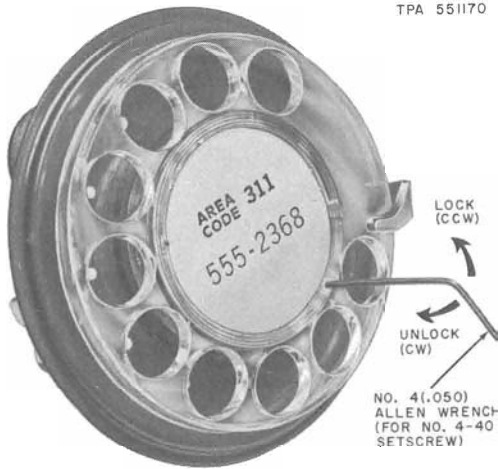

Fig. 16—Installing Fingerwheel on 8U Dial
- (1) Refer to Fig. 16, use a No. 4 (.050) Allen wrench and turn the setscrew in a clockwise direction until it clears fingerwheel.
- (2) Turn fingerwheel in a clockwise direction until operator hole is in the 9 position and lift off.
- (1) Ensure that setscrew is all the way in (clockwise).
- (2) Place fingerwheel on dial with operator hole over the 9 position.
- (3) Rotate fingerwheel counterclockwise until it is in its normal position.
- (4) Using a No. 4 (.050) Allen wrench, turn the setscrew in a counterclockwise direction until the stop is reached (Fig. 16).